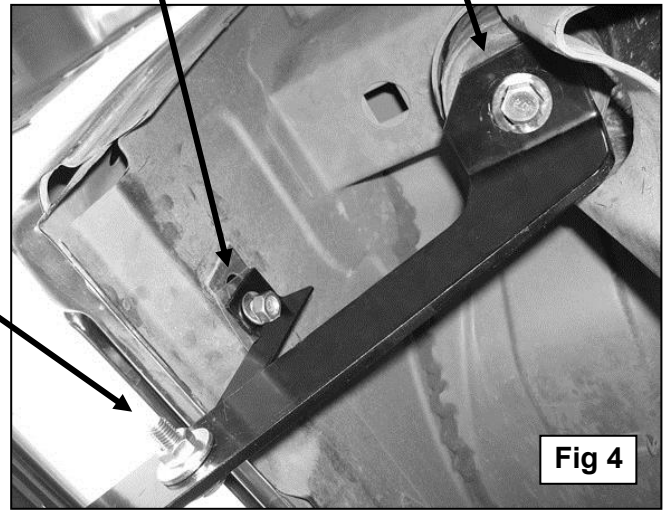

Fig 4
7. Next, move to the rear Mounting Bracket location. Remove the tape covering the hole in the inner rocker panel and install (1) Bolt Plate as described in **Step 5**. Locate the driver side rear Support Bracket (short) and attach it to the Bolt Plate with (1) 10mm Lock Washer, (1) 10mm Flat Washer and (1) 10mm Hex Nut, (**Figure 4**). **NOTE:** Place Support Bracket against the front facing side of the Mounting Bracket with the bent tab facing towards the **rear** of the vehicle. Repeat **Step 7** to attach the lower end of the Support Bracket to the Mounting Bracket, (**Figure 4**). Snug but do not tighten hardware at this time.